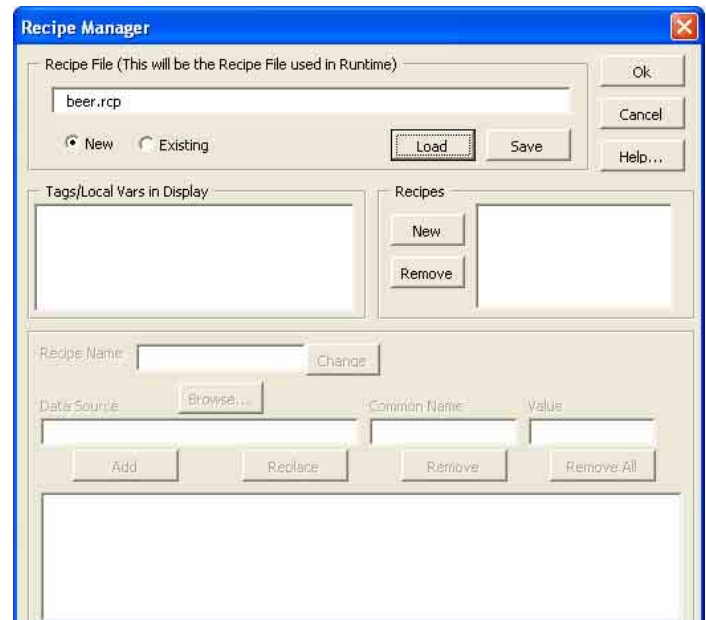

Fig. 2: Simple Recipe Configuration
4. Call the recipe group **Beer.rcp** and click on **Load**. The window shown in **Fig. 2** will appear.